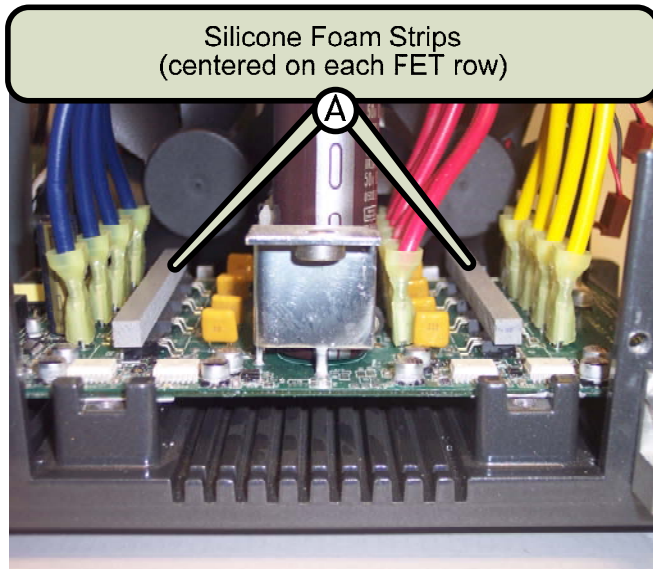

Figure 4, Silicone Foam on FET rows
3.2.4 Place a new silicone foam strip (shiny side up and down) in the center of each row of FETS, see figure 4.